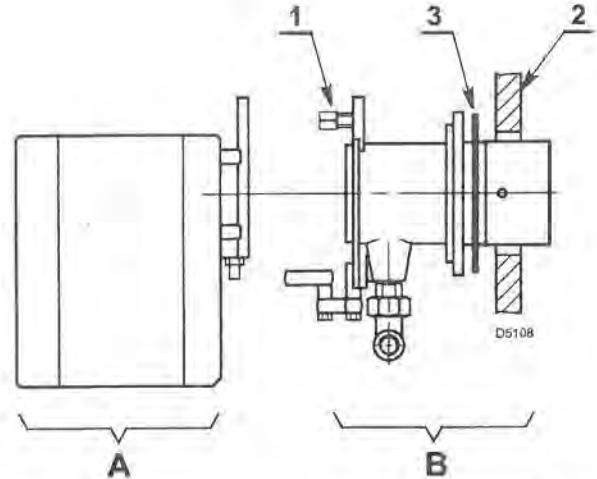

Fig. 4
Separate the combustion head of the burner from the chassis (A)(Fig. 4) by removing the locknut (1). Install the combustion head into the boiler.